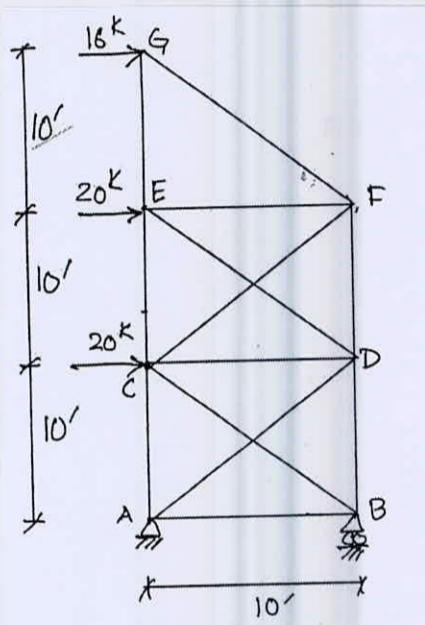

Fig. 10
7. Determine the member force of AC, AD, CD, DE, CE, FD, EG and GF of the indeterminate truss as shown in Fig. 10. Assume the diagonals can support either tensile or compressive forces. (28)